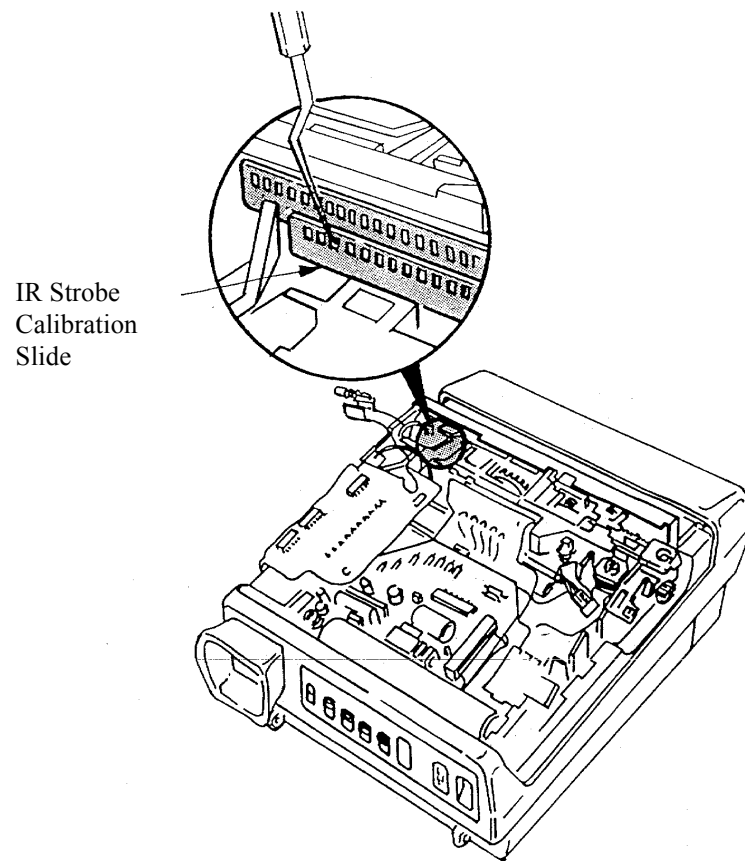

Figure 3-12 Adjusting the IR Strobe Exposure Calibration Slide
2. If the Strobe Exposure Test readings are too low, use a dental pick and slide the IR Strobe Exposure Calibration Slide to the right, in proportion to the amount the reading is too low (see Figure 3-12). The IR Strobe Exposure Calibration Slide is the nearer or front-most Slide, when the Base Block is viewed from the rear of the camera).